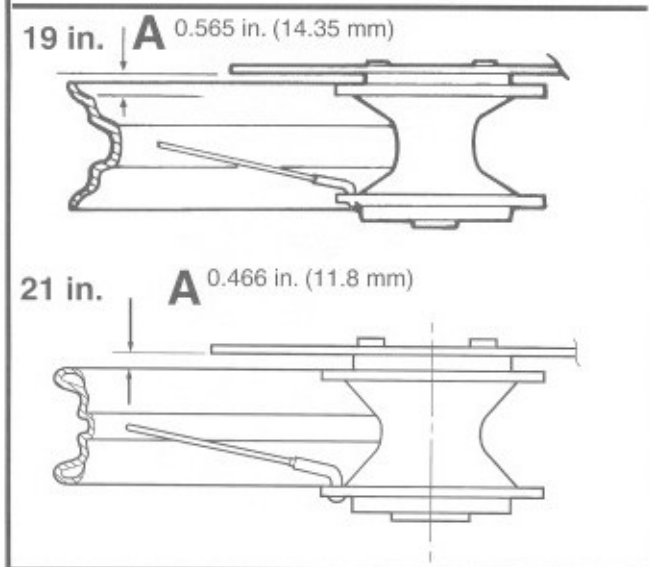

Figure 2-29. Centering 19-in and 21-in Hub
4. See Figure 2-28, and Figure 2-29. The hub must be centered sideways with the rim. Lay a straightedge across the hub brake disc flange and one of the marked spoke groups. Measure the distance from the straightedge to the rim as shown. If this dimension is not equal on both sides of the wheel, loosen and tighten the four spokes accordingly. Use SPOKE WRENCH (Part No. HD-94681-80).
See Figure 2-28, and Figure 2-29. Dimension "A" must be maintained to ensure centering of wheel on motorcycle.
- See Figure 2-28, and Figure 2-29. Check dimension A and retrue wheel if not within specifications.